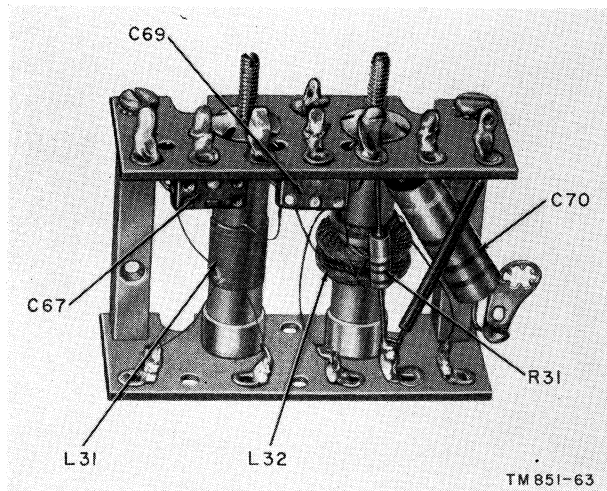

Figure 85. Radio Receiver, all types, first mixer i-f transformer subassembly T1.
d. First Mixer Subassembly (fig. 85). To replace any part in first mixer subassembly T1 in Radio Receivers R-274A/FRR and R-274C/FRR, first remove the frequency control unit as described in *c* above; then continue as follows in all types of the receiver.
- (1) Remove the chassis side shield by removing the ten No. 10-32 and two No. 6-32 screws from the side, and the four No. 10-32 screws on the front panel.
- (2) Remove the two No. 6-32 cap nuts to remove the mixer cover.
- (3) Remove the six No. 6-32 screws to remove the mixer shield.
- (4) Unsolder all ten leads at the top terminal board and all five leads at the bottom terminal board of the mixer subassembly.
- (5) Remove the four No. 6-32 screws to remove the mixer subassembly.